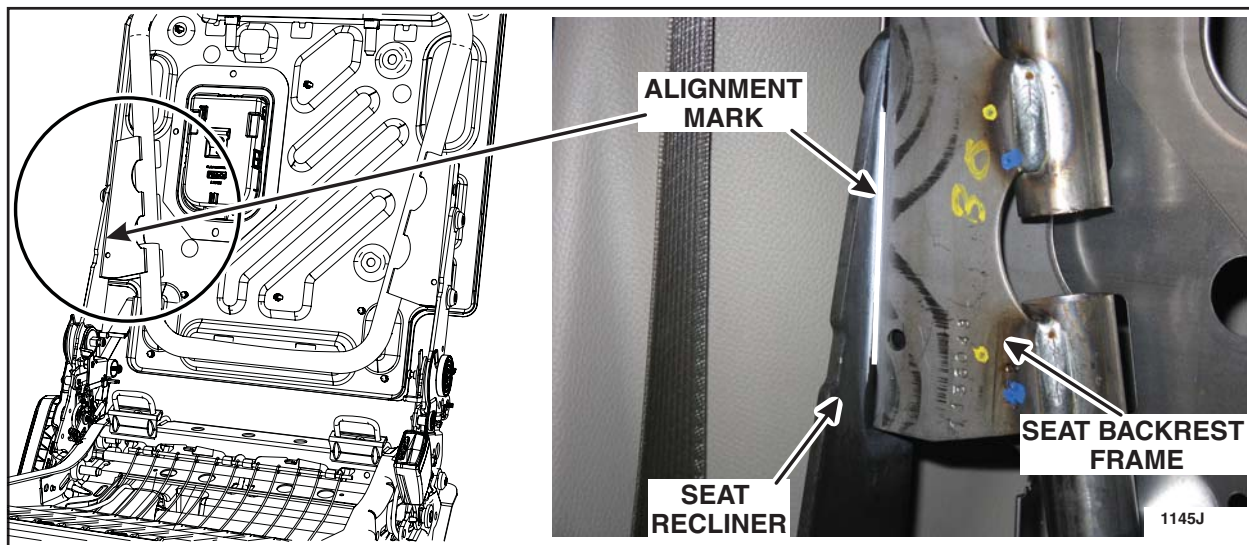

FIGURE 3
7. **CRITICAL:** Mark the backrest frame-to-recliner position as shown in Figure 3. This mark will allow the *new* frame to be installed in the exact alignment as the original frame. If the *new* frame is not aligned properly, the seat will not function in all seat positions.
10. **CRITICAL:** Align the seat backrest frame-to-recliner marks made during disassembly. See Figure 3 above.